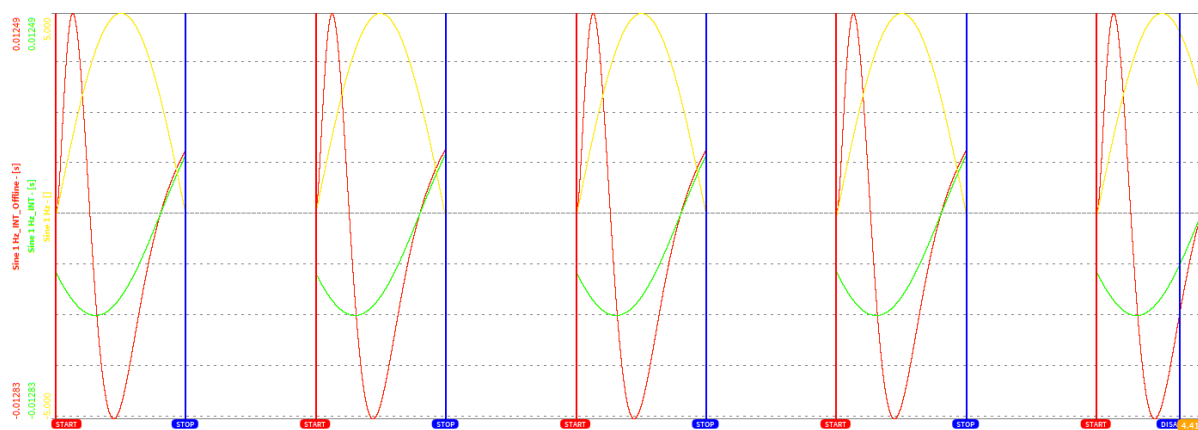

Fig. 7.179: Deviation of Offline and Online Filter channels in case of Event based Waveform recording
- Be aware that an Offline Filter channel will differ from an Online Filter channel, i.e. at the beginning of the file or in case of Event based waveform recording (see Triggered Events). In the example displayed in Fig. 7.179, the green channel is an online calculated Integrator applied on the yellow analog channel and the red channel is an offline calculated integrator applied on the yellow analog channel with identical channel settings. The deviation of the green and the red channel happens, because the offline calculated integrator will oscillate at the beginning of each new event, but the online calculated integrator not, because the analog data is always available during online calculation.